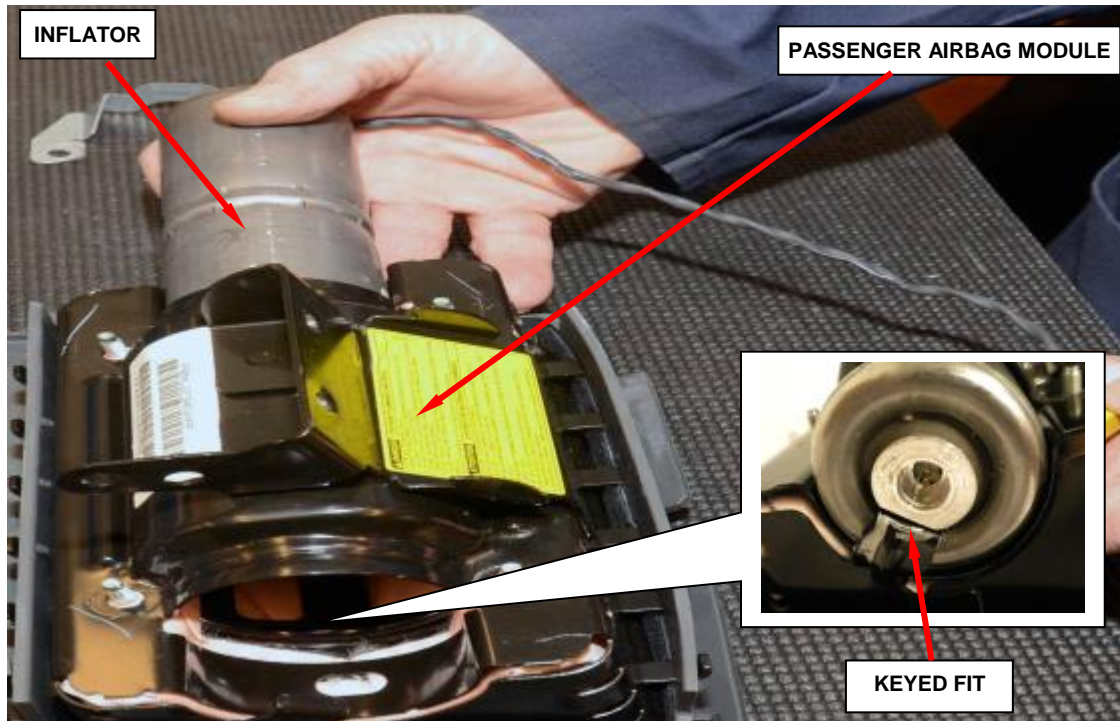

Figure 27 – Passenger Airbag Inflator to Housing
- f. Slide the inflator out of the passenger airbag module (Figure 27).
NOTE: The inflator's key **MUST** line up with the housing's key (Figure 27).
m. Slide the **new** inflator into the passenger airbag module (Figure 27).
NOTE: The inflator is keyed to fit into the housing (Figure 27).